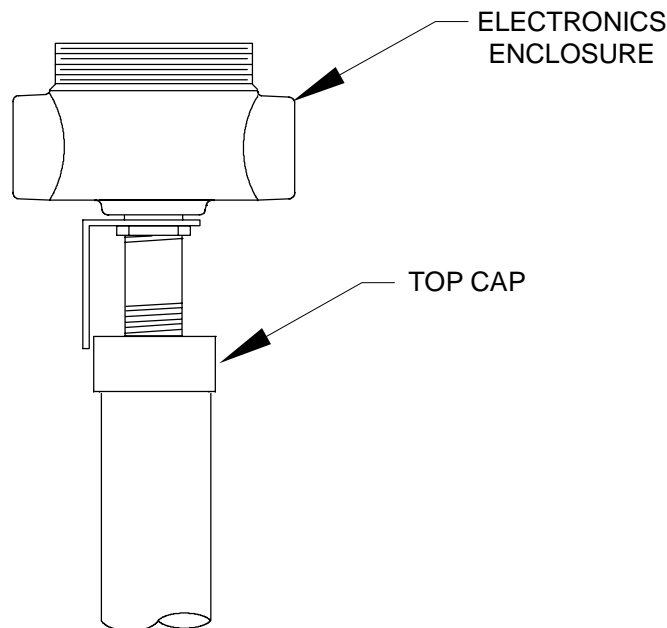

Figure 60: Removing electronic enclosure from casing
4. Hold the casing firmly with one hand near the top cap (Figure 60).